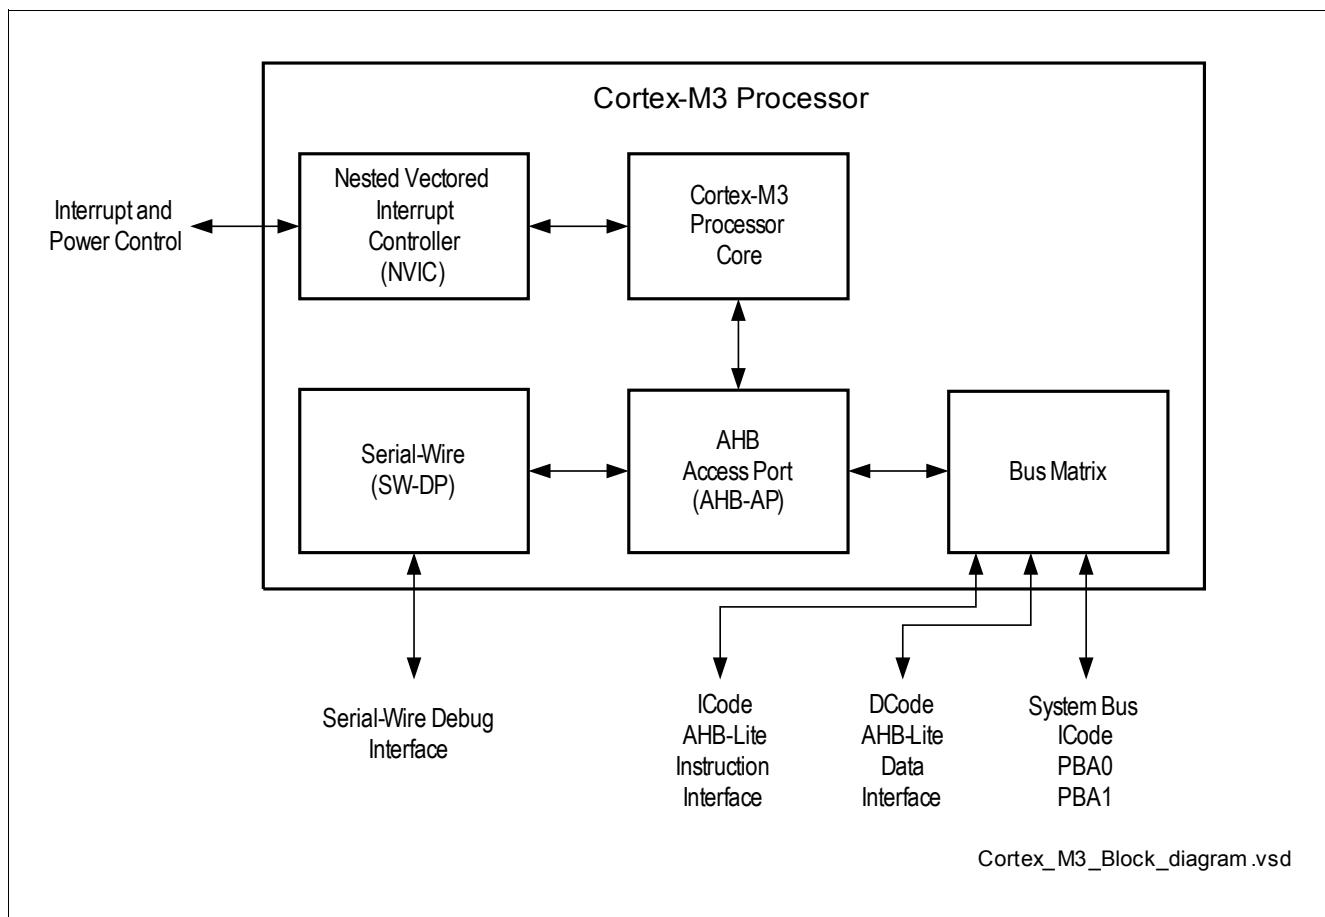

Figure 12 Cortex-M3 Block Diagram
**Figure 12** shows the functional blocks of the Cortex-M3.